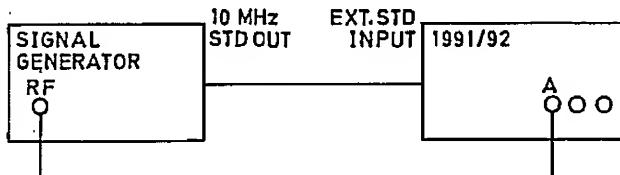

Fig 7.15 Connections for Channel A Sensitivity PVP
(2) Connect the test equipment as shown in Fig 7.15. Check that the EXT STD indicator lights.
(3) Set the signal generator output to the frequencies shown in Table 7.4 in turn. Set the 1991/92 resolution to the corresponding value.
(4) At each frequency, determine the minimum input level to the 1991/92 which gives stable counting. Verify that this is not more than the level shown in the table.
(5) Disconnect the test equipment.